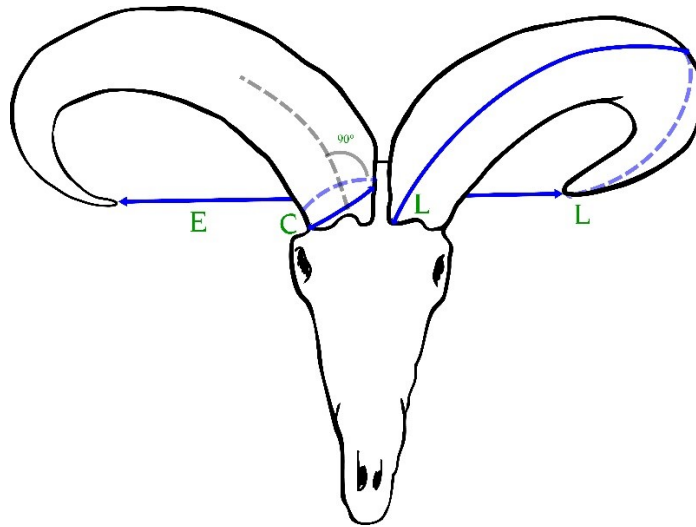

Figure 1, Barbary sheep
1. Length. (Barbary sheep) Most aoudads have a lower point on the front of the horn, normally off-center towards the middle of the skull; this is the starting point of the length measurement. With an aoudad the arc of the length measurement will more or less form a half-moon shape. (Figure 1) Some heads curve inwards in the final half of the length while others curve downwards. Keep the tape on the center of the horn and it will either start pointing downwards or curve outwards and then inwards depending on the horn configuration. Stay on the center outside of the horn, and keep going following the grain in a straight line to the horn tip. If the tip is broken, card off. (See General Instructions.)